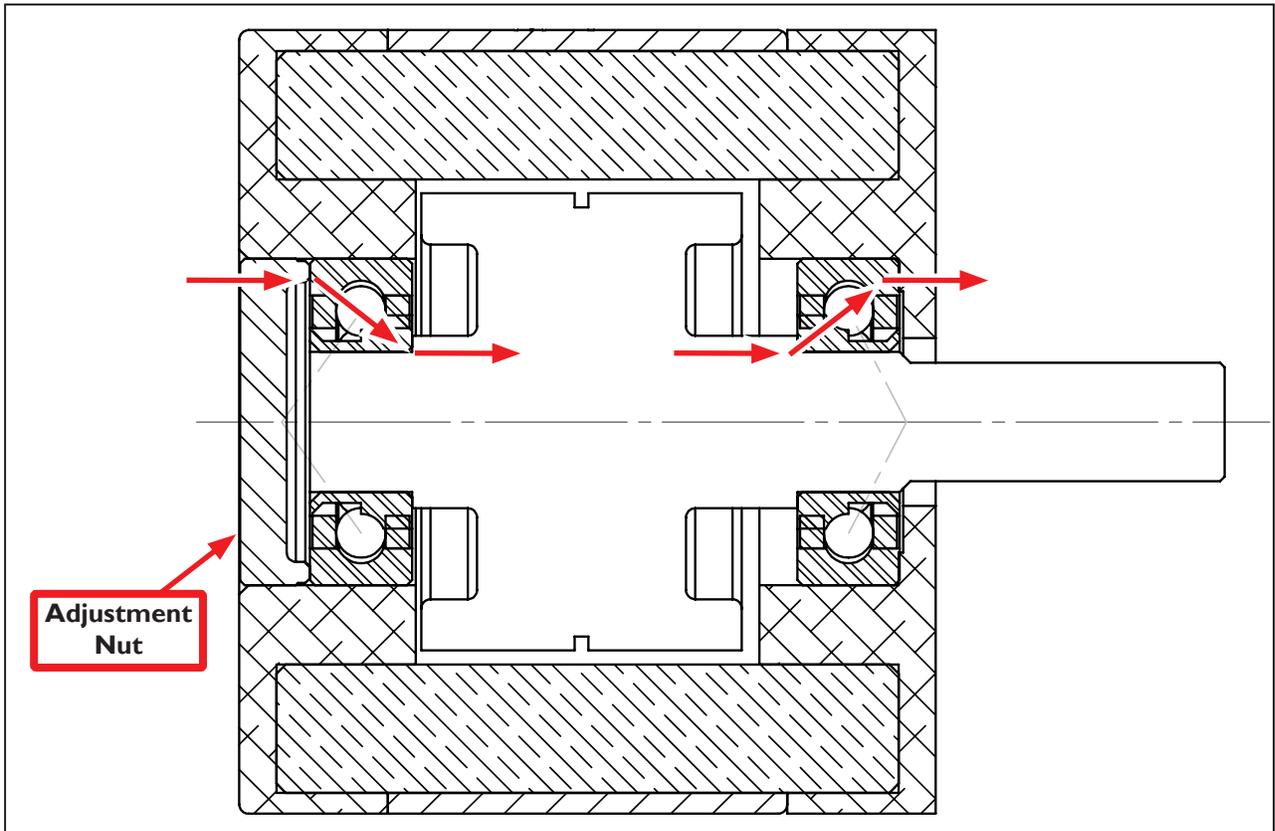

Figure 9.4
**Figure 9.4** shows a cross section of the stepper motor. There are two angular contact ball bearings, forming a pre-loaded pair. The adjustment nut and stepper motor frame hold the two outer races together.
The Adjustment Nut is located on the back of each stepper motor (see **Figure 9.4**).